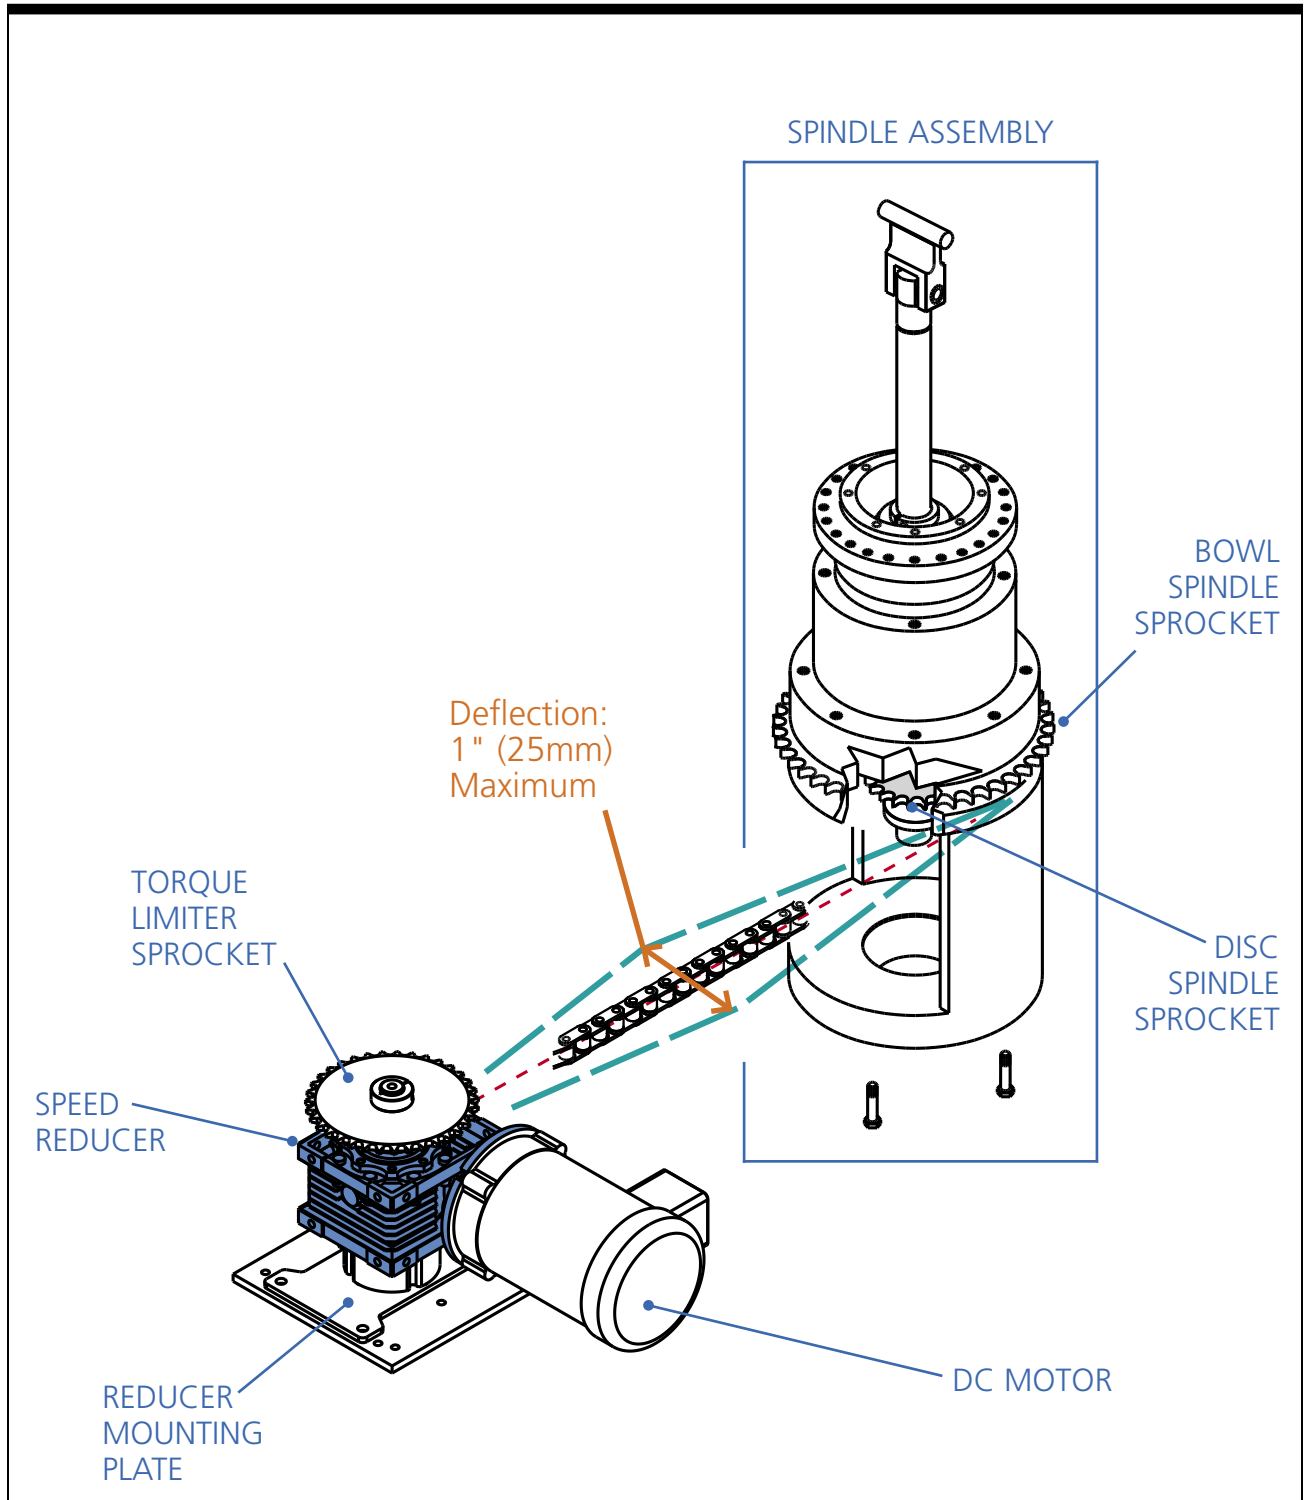

Figure 4-3. Bowl Drive Chain Tension -Typical DC Motor
**Step 2—Inspect Drive Chain.** Midway between the sprockets, grasp the chain and move it back and forth. You should not be able to move it more than 1" in either direction. If it moves more than 1", adjustment is required (see Figure 4-3.) To adjust:
**Step 7—Replace Chain & Covers.** Install bowl drive chain. Inspect chain tension (refer to Figure 4-3). Replace covers and reconnect power and air.